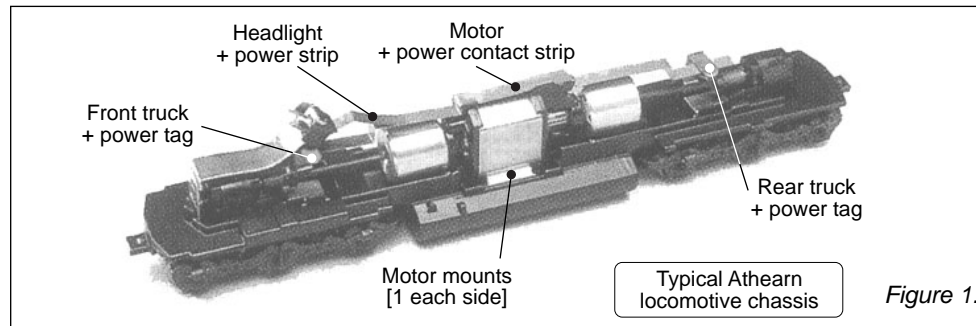

Figure 1.
[Refer to Figure 1.]
- Position the ATC Assembly so that the distance from each bogie + power tab (see Fig. 1) to the ATC end cap is equal.
- Solder motor red wire together with one end of the red loop wire to either + power tag (see Fig. 1)